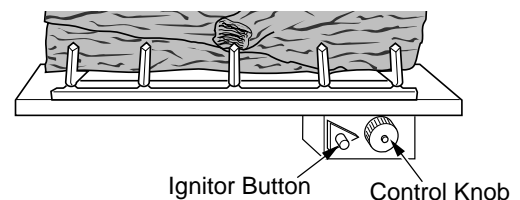

Figure 27 - Control Knob and Ignitor Button Location
3. Turn control knob clockwise  to the OFF position (see Figure 27).
4. Wait five (5) minutes to clear out any gas. Then smell for gas, including near the floor. If you smell gas, **STOP!** Follow "B" in the safety information above. If you don't smell gas, go to the next step.
5. Turn control knob counterclockwise  to the PILOT position. Press in control knob for five (5) seconds (see Figure 27).
**Note:** If pilot goes out, repeat steps 3 through 7. This fireplace has a safety interlock system. Wait one (1) minute for system to reset before lighting pilot again.